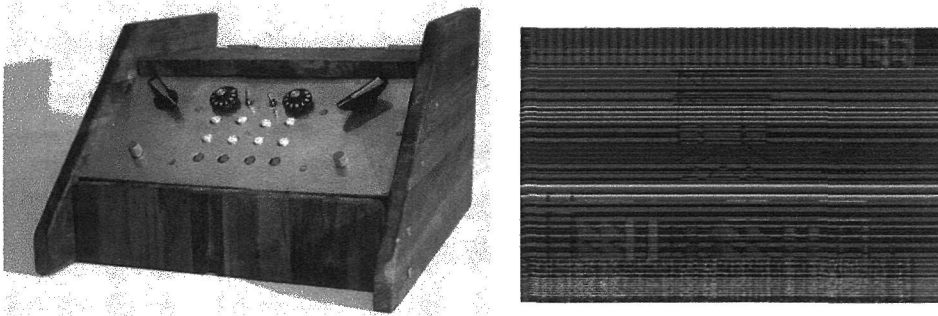
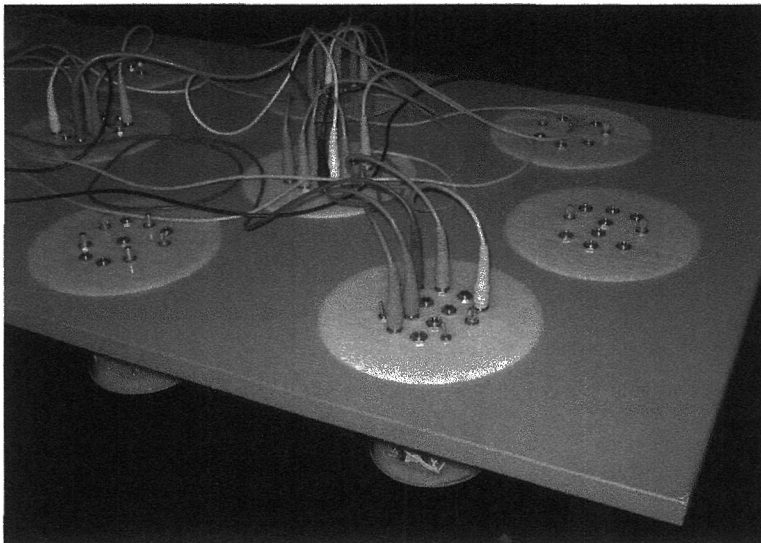

Figure 24.6 The "Vitch," Jon Satrom (left). Video image from performance with the "Vitch," Jon Satrom (right).
Figure 24.7 "Kiss Blink Sync Vessel" by LoVid.
Jon Satrom (USA) has built his VJ career on transforming a child's "video paint box" into an instrument he calls the "Vitch" (see Figure 24.6 and his video on the DVD). By inserting circuit bending-style jumpers between various points on the circuit board, Satrom is able to disrupt the toy's functions to produce a remarkable range of fragmented, frozen, superimposed, and digitally warped images (essentially a video equivalent of the keyboard malfunctions described by Phil Archer in *Art & Music 9*, "Circuit Bending," Chapter 15). Similar video circuits have been bent by Jordan Bartee (USA), J. D. Kramer (USA), Phil Stearns (USA), and the trio of Abbot, Archer, and Tombs (UK)—see their videos on the DVD. Tali Hinkis and Kyle Lapidus of the video hacking duo LoVid (USA) have created wonderful homemade video synthesizers, occasionally built into soft sculpture and wearables. Their "Kiss Blink Sync Vessel" is a collection of modules, embedded in tabletops, that can be patched together to synthesize both video and sound (see Figure 24.7 and their video on the DVD).